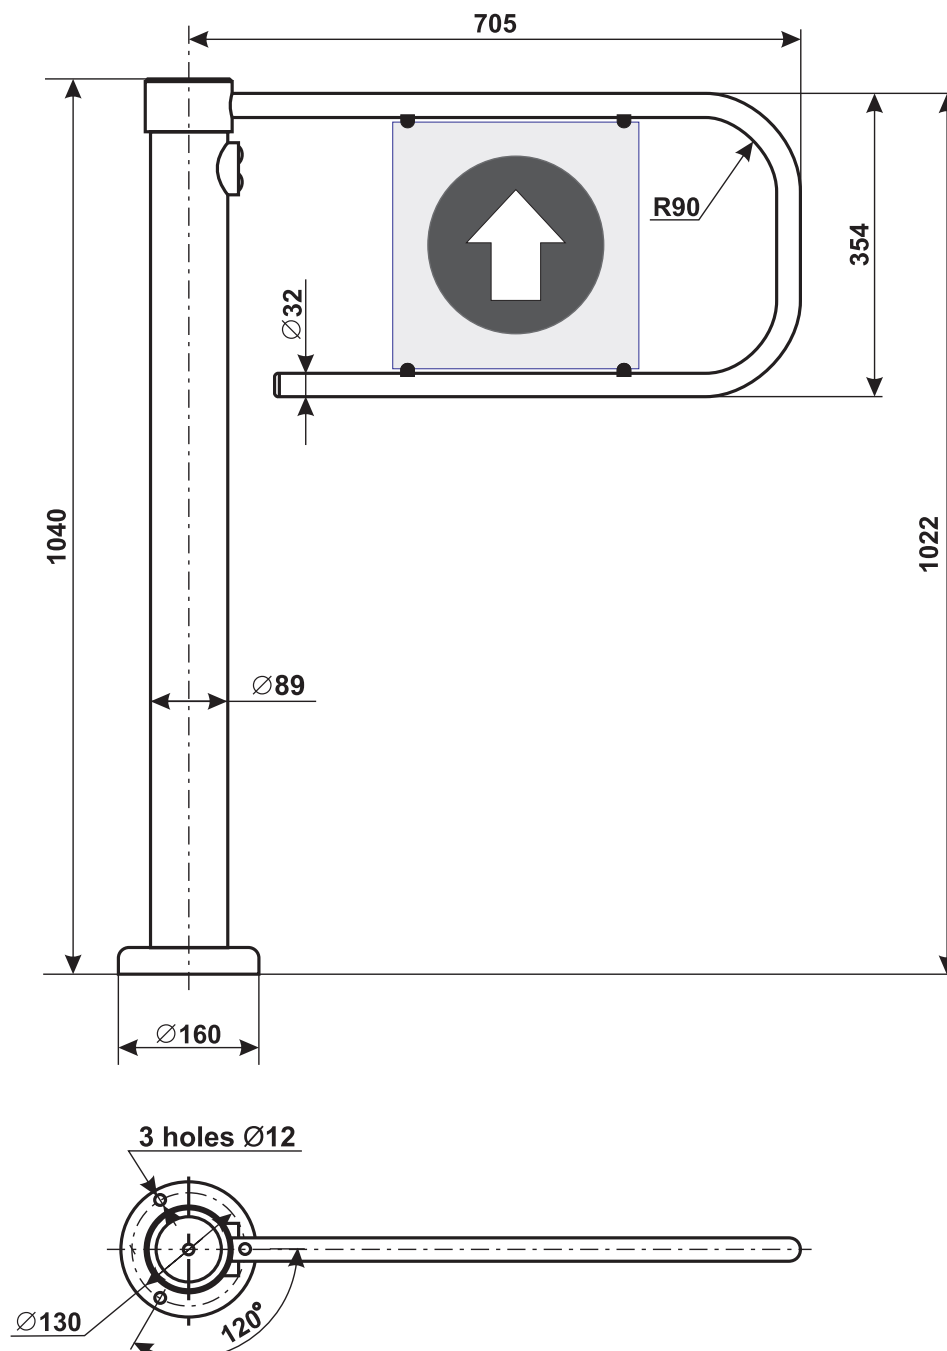

Figure 2. WHD-04 overall dimensions
5.2.2 Overall and mounting dimensions are given in Figure 2.